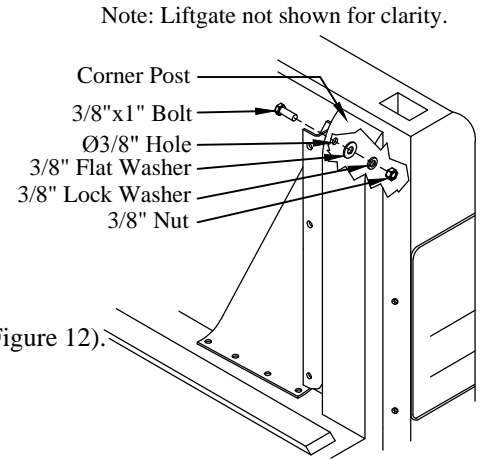

Figure 12: Additional support location.
1. **Locate** the existing 3/8" hole in the mounting bracket (Figure 12).
- (1) 3/8"x1" hex head bolt on the bracket-side (Figure 12).
- (1) 3/8" flat washer, (1) 3/8" lock washer, and (1) 3/8" nut on the truck-side (Figure 12).